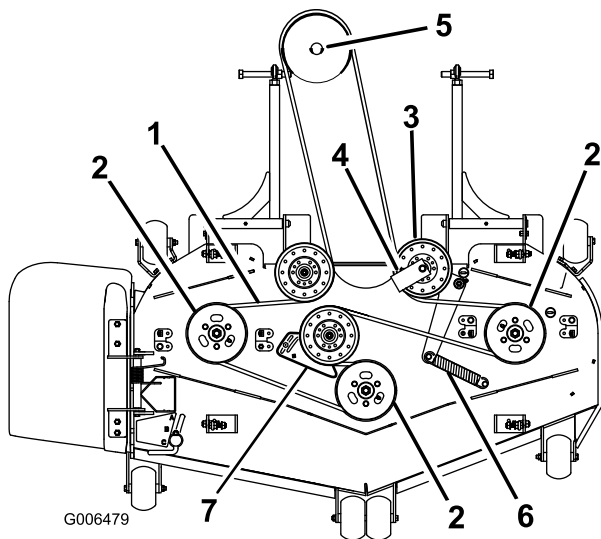
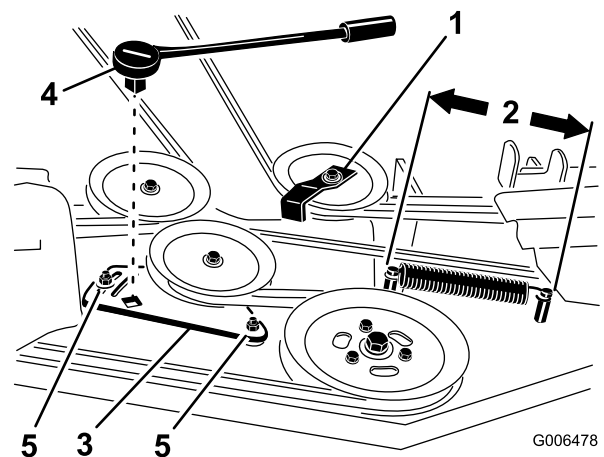

Figure 65
Figure 67
4. For 72 inch mowers, loosen the idler plate bolts holding the idler plate (Figure 67).
6. Remove the belt guide on the spring loaded idler pulley shown in Figure 65 and Figure 67.
8. Install the new belt around the mower pulleys and the gearbox pulley under the engine (Figure 65).
9. Install the belt guide on the spring loaded idler at a 45 degree angle as shown in Figure 65 and Figure 67. Torque the bolt to 27 to 33 ft-lb (37 to 45 N-m).
10. Install the idler spring to the two posts (Figure 65 and Figure 67).
4. Measure the spring length (Figure 67). If the spring length is between 10 and 10-1/4 inches (25.4 and 26.0 cm), from post to post, no adjustment is needed.
5. Loosen the bolts holding the idler plate (Figure 67).
6. Insert a ratchet or breaker bar into the square hole in the idler plate to adjust the tension (Figure 67).
7. Rotate the ratchet or breaker bar to move the idler plate until the idler spring is between 10 and 10-1/4 inches (25.4 and 26.0 cm) from post to post as shown in Figure 67.
8. While holding the belt tension and spring length, tighten the idler plate bolts that secure the idler plate (Figure 67).